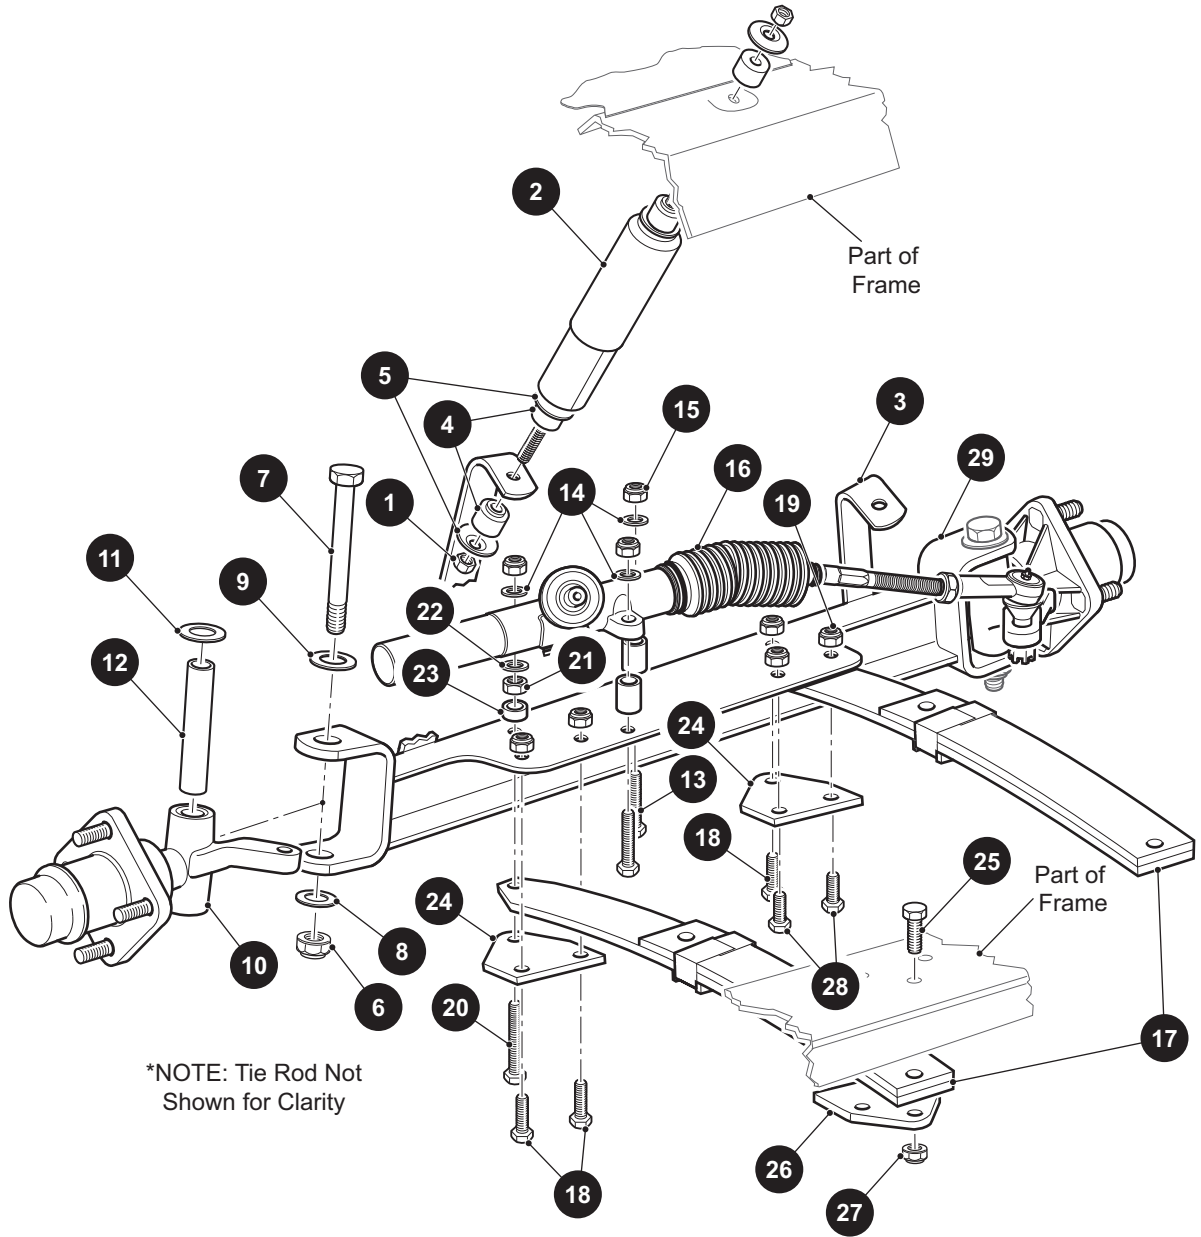
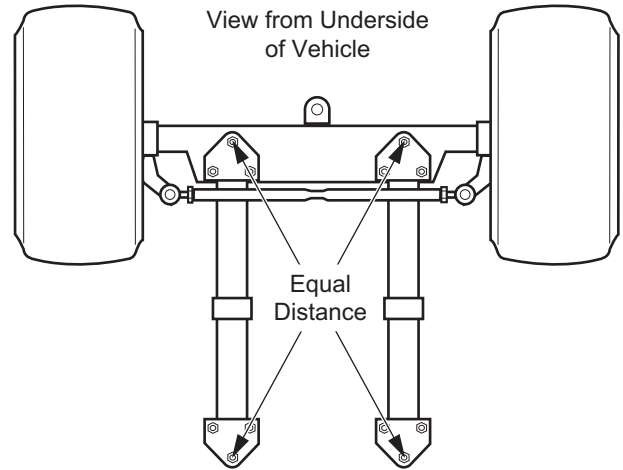

Fig. 6 Front Suspension Components
Figure 7 Front Axle Alignment
1. Remove the nut (1) from the bottom of the shock absorber(2) at the front axle (3)(Ref. Fig. 6)
6. Mounting nuts should be tightened until rubber bushings (4) expand to diameter of shock absorber washers (5).
2. Remove hardware (1, 4, 5) securing shock absorbers (2) to front axle (3) (Ref. Fig. 6).
3. On the driver side, remove lock nut (6) and washer (8) from bolt (7) and discard nut. Pull bolt (7) and washer (9) from spindle (10) and separate spindle from axle. Remove thrust washer (11) and king pin tube (12) from spindle, wrap towel around spindle and let spindle rest on ground.
4. Repeat at passenger side letting rack ball joint (29) rest on front spring to support spindle.
the springs with the hardware (20 - 23) installed in its original location (Ref. Fig. 6).
8. To prevent damage to bellows (16), the two 1 1/2" long bolts (28) must be installed in their original location.
9. Front axle installation is the reverse order of disassembly using new lock nuts (15, 19). All hardware (18 - 24, 28) must be installed in its original location (Ref. Fig. 6).
11. Install thrust washers (11), king pin tubes (12), spindles, washers (9) and bolts (7). Tighten new lock nuts (6) to 56 - 70 ft. lbs. (75 - 95 Nm) torque. Check that spindle turns freely on king pin tube after tightening.
3. Fully loosen the two rack and pinion unit lock nuts (15), one near the bellows and one on the rear side of the rack and pinion unit, until only one thread is engaged (Ref. Fig. 6). Remove the lock nut (15) and washer (14) from the
4. long bolt (20) and discard lock nut. The rack and pinion unit is now loose.
CAUTION To prevent stress and possible damage to the rack and pinion unit, the driver side spring must be mounted to the axle with the hardware (20 - 23) installed in its original location (Ref. Fig. 6).
- Driver side spring installation is the reverse order of disassembly making sure to install the long bolt (20), spring plate (24), spacer (23), nut (21) and washer (22) in their original locations. Use new lock nuts (15, 19, 27) to secure the rack and pinion unit (16), two short bolts (18) and rear bolts (25).
- Remove the hardware (18, 19, 24, 28) securing the front of the passenger side leaf spring (17) to the axle (3) and discard lock nuts (19) (Ref. Fig. 6).
- Pull upper passenger side of floor mat out of plastic trim retainer and away from floor. Locate and remove hardware (25 - 27) securing rear of spring (17) to vehicle frame and discard lock nuts (27).
- When front springs are replaced, the front axle must be aligned to the frame. The distance from the center bolt at rear of left spring to the center bolt at front of right spring must be the same as the distance from the center bolt at rear of right spring to the center bolt at front of left spring (Ref. Figure 7). Tighten the spring hardware (21, 19, 27) first and rack and pinion unit hardware (15) next to 35 - 50 ft. lbs. (50 - 70 Nm) torque.